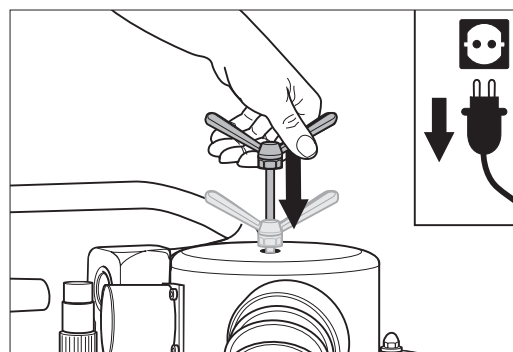

Fig. 32 Push the cleaning slide as far as possible into the filter unit.
- 7 Now it is time to push the cleaning slide all the way down to centre the system (Fig. 32). Otherwise the system will be very hard to work with later.